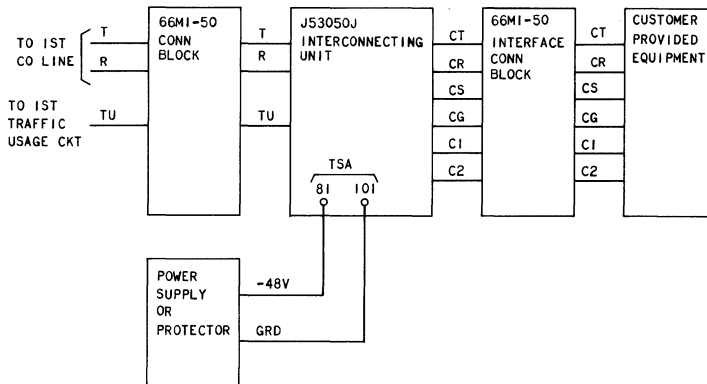

Fig. 4—Block Diagram—PCA TAS
3. INSTALLATION (Fig. 4 and 5)
- 3.03** Use the 16-pair "D" inside wiring cable, or equivalent, to terminate the leads to the CO lines and traffic usage (TU) circuits (if used) on the 66M1-50 connecting block. Follow the wiring plan shown in Fig. 4 and 5 and refer to Table A for connections. Use wire-wrap tools to connect to 342A terminal strips. Stencil line number and lead designations on designation strip.
6.01 For connection information to the 342A terminal strips (TSA and TSB) on the J53050J-2 IU, refer to Fig. 4 and 5 and Tables A, B, and C.